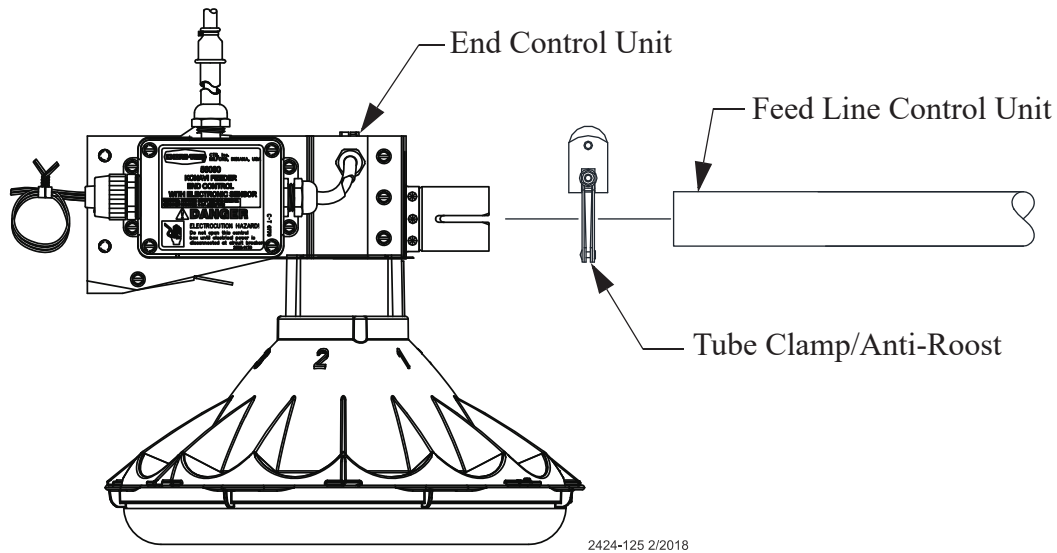

Figure 38. Connecting End Control Unit to the Feed Line Tube
1. Assemble the End Control Unit to the Feeder Line Control Tube using a clamp/anti-roost bracket. See **Figure 38. DO NOT INSTALL THE POWER UNIT AT THIS TIME.**